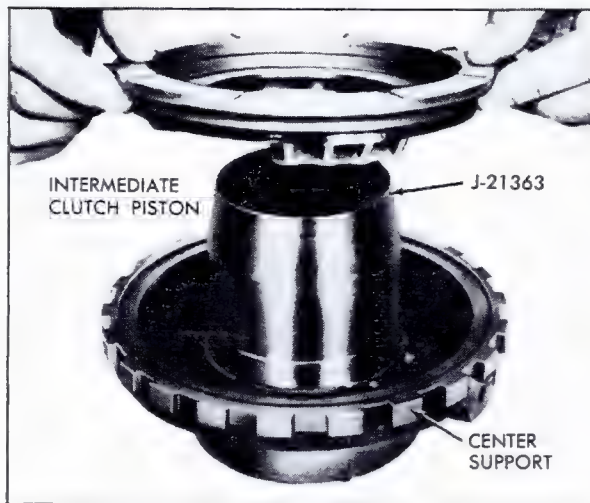

Fig. 7-189 Installing Intermediate Clutch Piston
b. Place Intermediate Clutch Inner Seal Protector, J-21363, over center support hub, Fig. 7-189, and install intermediate clutch piston.